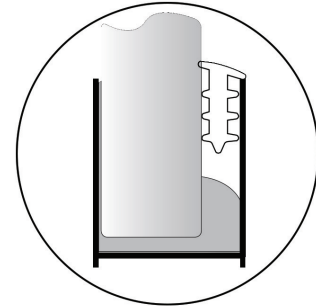

FIG 23.
**IMPORTANT:** Rubber wedge must be pressed into channel lightly from top to bottom before pushing right in. This method ensures rubber wedge does not set stretched and then shrink later (FIG 23).